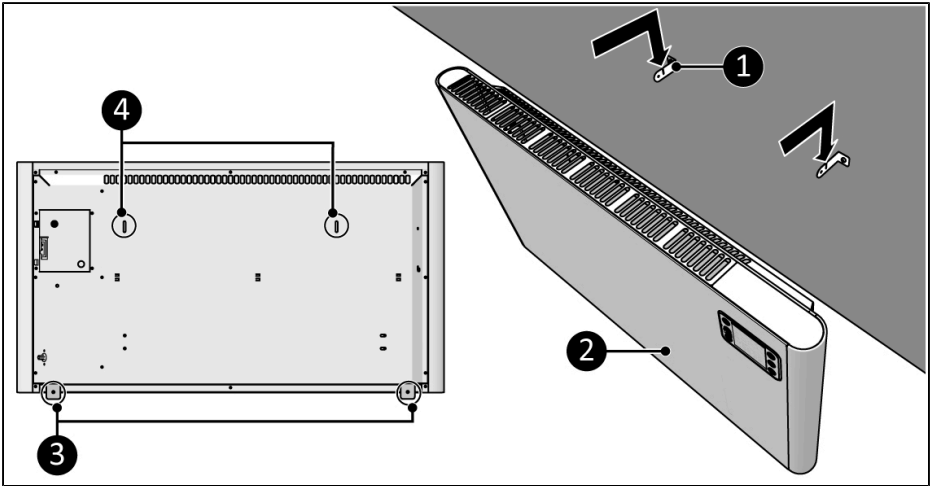

Figure 12.
9. Place the bracket holes (Figure 12, pos. 4) over the wall brackets (Figure 12, pos. 1).
10. Let the device (Figure 12, pos. 2) drop into the openings of the wall brackets (Figure 12, pos. 1).
11. Use the device brackets (Figure 12, pos. 3) to mark the bottom hole position on the wall.
12. Remove the device from the wall brackets (Figure 12, pos. 1)